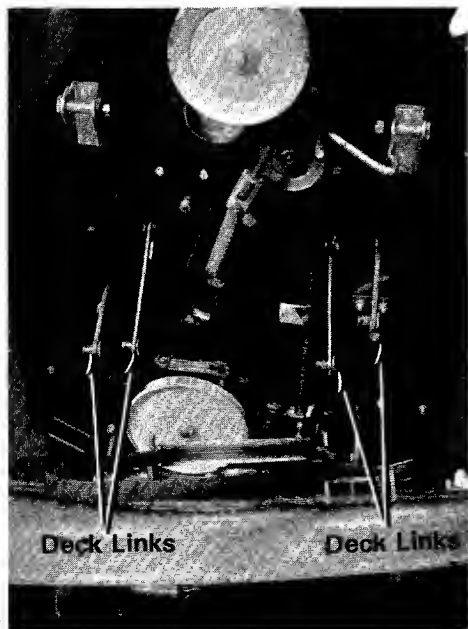

Figure 22
- 6 Remove the cotter pins holding the front four deck links. Allow the deck to tip forward. (See figure 22.)